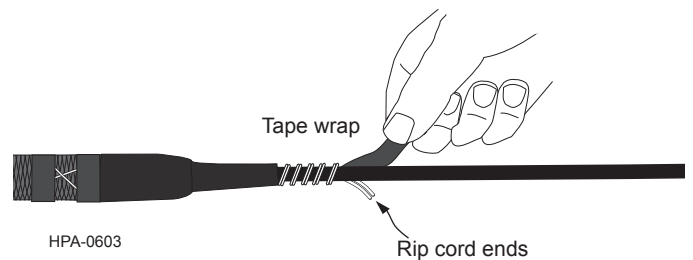

Figure 7
- Step 1:** Remove the tape wraps which secure the ends of rip cords to the cable jacket (Figure 7).